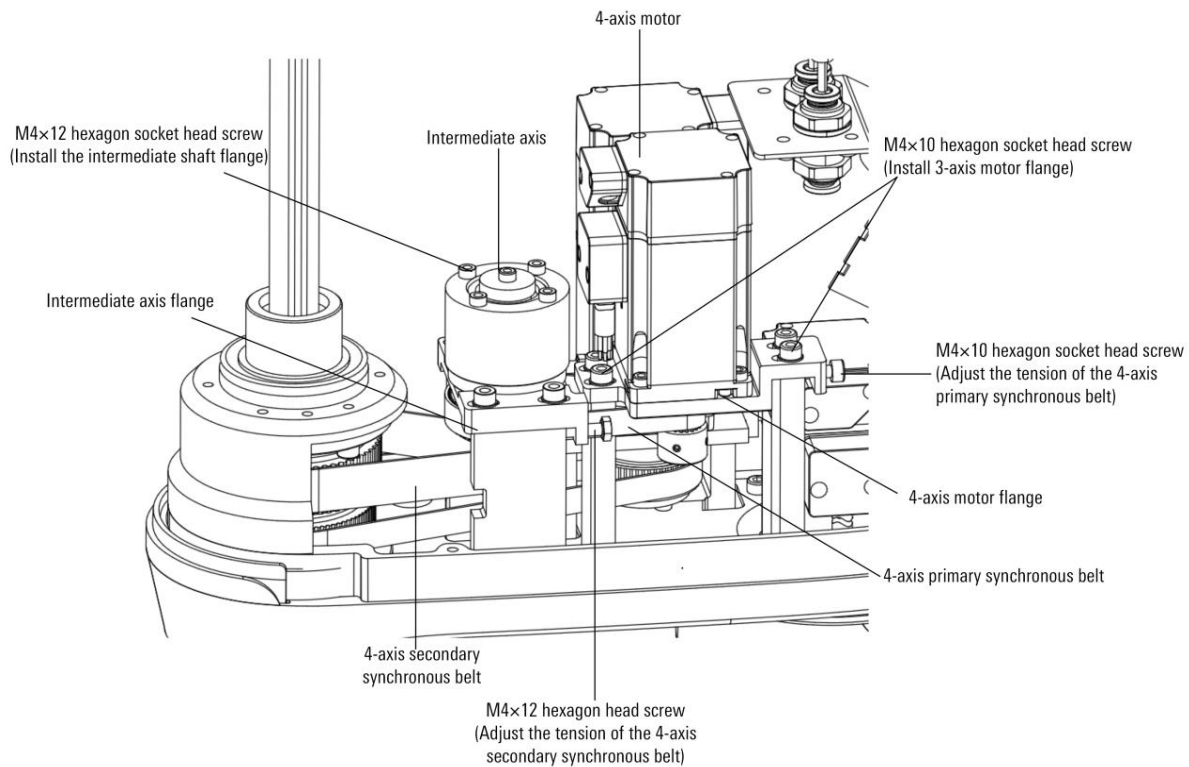

Figure 8-14 Schematic diagram of disassembling the intermediate axis
- Step3. Use an Allen wrench to remove the four M4×10 inner hexagon socket head screws for installing the flange of the 4-axis motor, and then slowly loosen the a M4×10 inner hexagon socket head screw that adjusts the tension of the 4-axis primary timing belt. Remove the flanges of the 4-axis motor and 4-axis motor together, as shown in Figure 8-14.
- Step4. Use an Allen wrench to unscrew and remove the four M4×12 hexagon socket head screws for installing the intermediate shaft flange, and then use a normal wrench to slowly loosen the two M4×12 hexagon heads screws that adjust the tension of the 4-axis secondary timing belt. Take off the intermediate axis and the intermediate axis flange together, and take off the 4-axis primary timing belt, as shown in Figure 8-14.